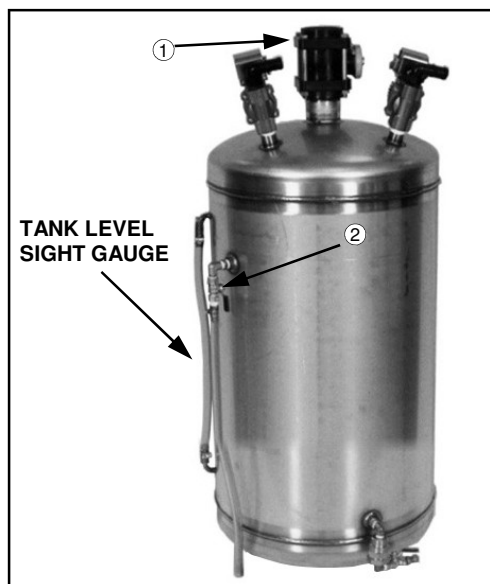

FIG 5.45
Relieve pressure from the tank by opening the 1/4" ball valve on the side of the foam tank (fig. 5.45, item 2). Close the ball valve after pressure is relieved. Open the top 2" ball valve (fig. 5.45, item 1). Add water to the tank, leaving enough room for the foam concentrate. Next add the foam concentrate according to the label on the container. After filling is complete, close the 2" ball valve on top of the tank. Start the sprayer's engine and adjust the air pressure accordingly.